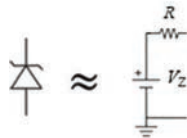

Figure 2.39 Ch 2: No. 5, self-test
- The voltage regulator in Figure 2.39 with a 4.6 V Zener diode at a Zener knee current (I_{ZK}) of 2 mA, Zener maximum current (I_{Zm}) of 152 mA, Zener test current (I_{ZT}) of 35 mA, Zener impedance of $4\ \Omega$, and resistor R of $70\ \Omega$. Determine the input voltages range (the minimum and maximum voltage) for the circuit that can be regulated.